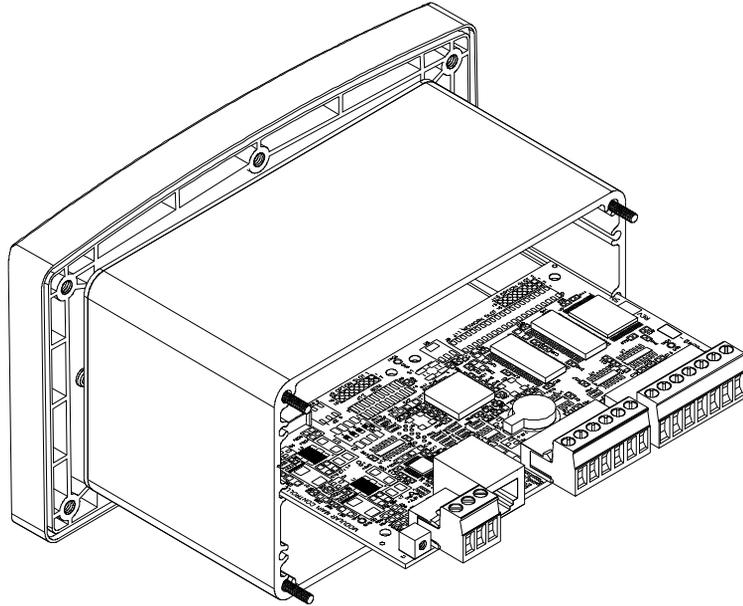

FIG. 14 INSTALLING PRINTED CIRCUIT BOARD INTO THE ELECTRICAL ENCLOSURE
Step 1. Line up the Printed Circuit board with the grooves in the electrical enclosure. (See Fig. 14)
The Main Board and options are installed assembled. We are showing the Main Board installation only in Fig. 14 for illustration purposes.